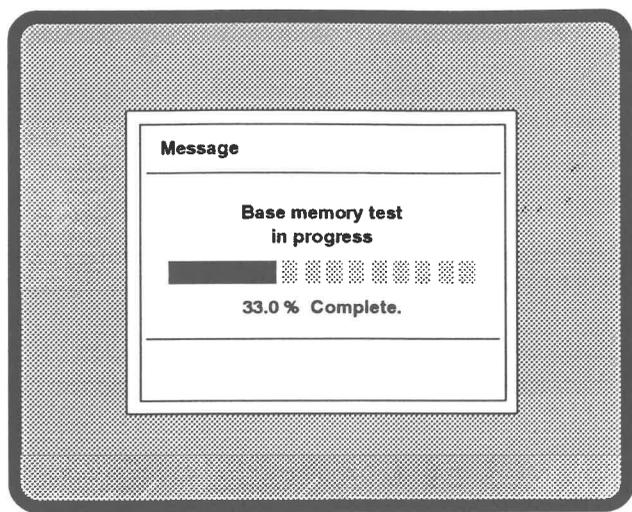

Figure 5-7 Checking Memory Test Progress
2. The memory test(s) begin. The duration of the tests is dependent upon the amount of memory the computer contains. A fully loaded computer may take several minutes to complete the test. You can monitor test progress by observing the information that appears on the display (see Figure 5-7).